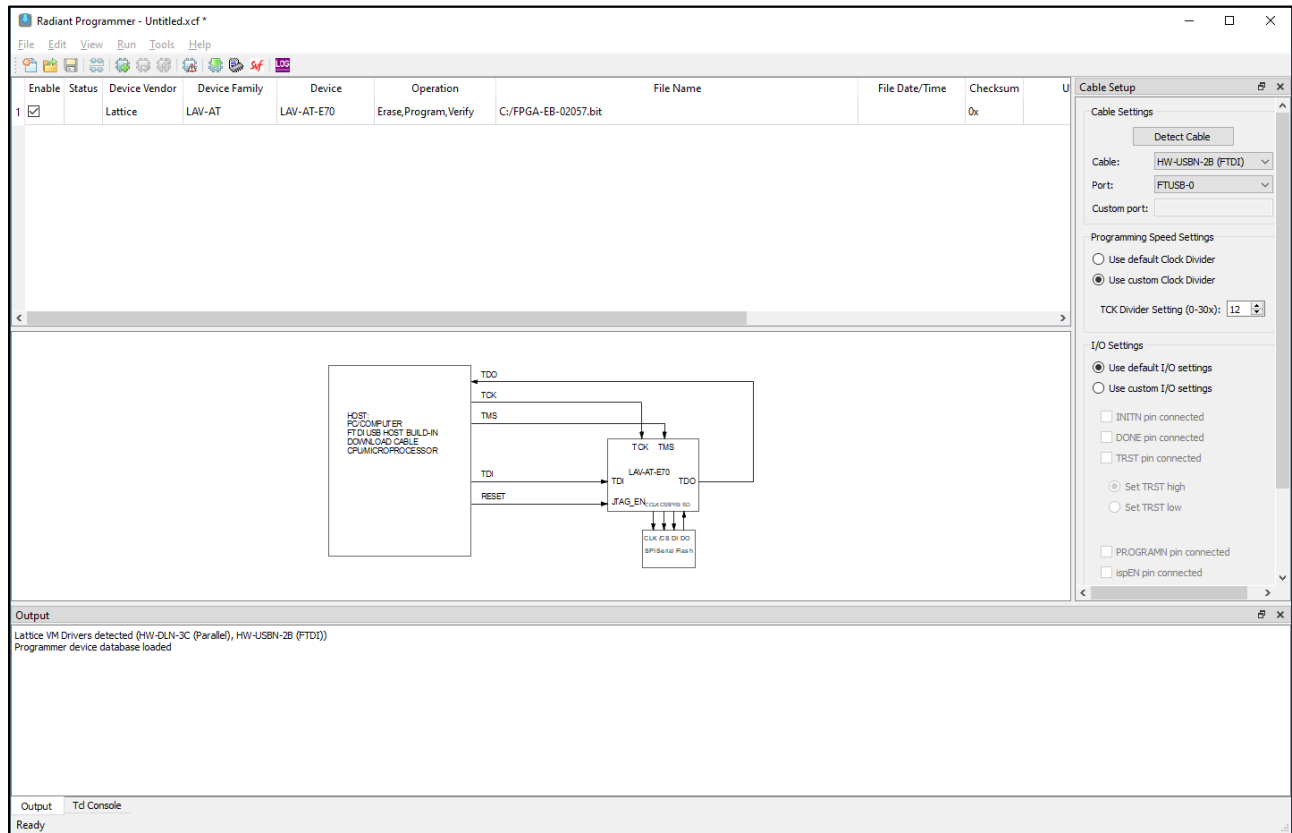

Figure 5.7. Radiant Programmer Interface
4. The Lattice Radiant Programmer interface opens (Figure 5.7). Double-click the **Operation** field.